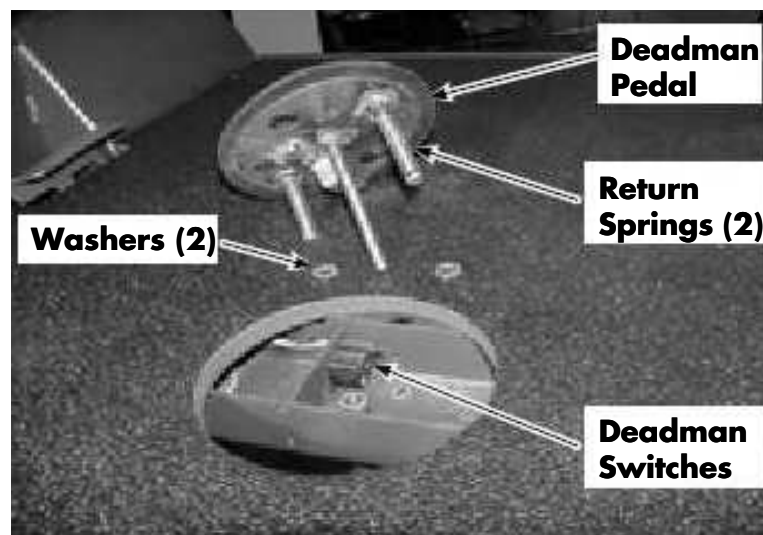

Figure 7-21. Deadman Pedal Components
8. Replace bad switch(es). See Figure 7-21.
11. While holding the two return springs in place, install pedal assembly. See Figure 7-21.